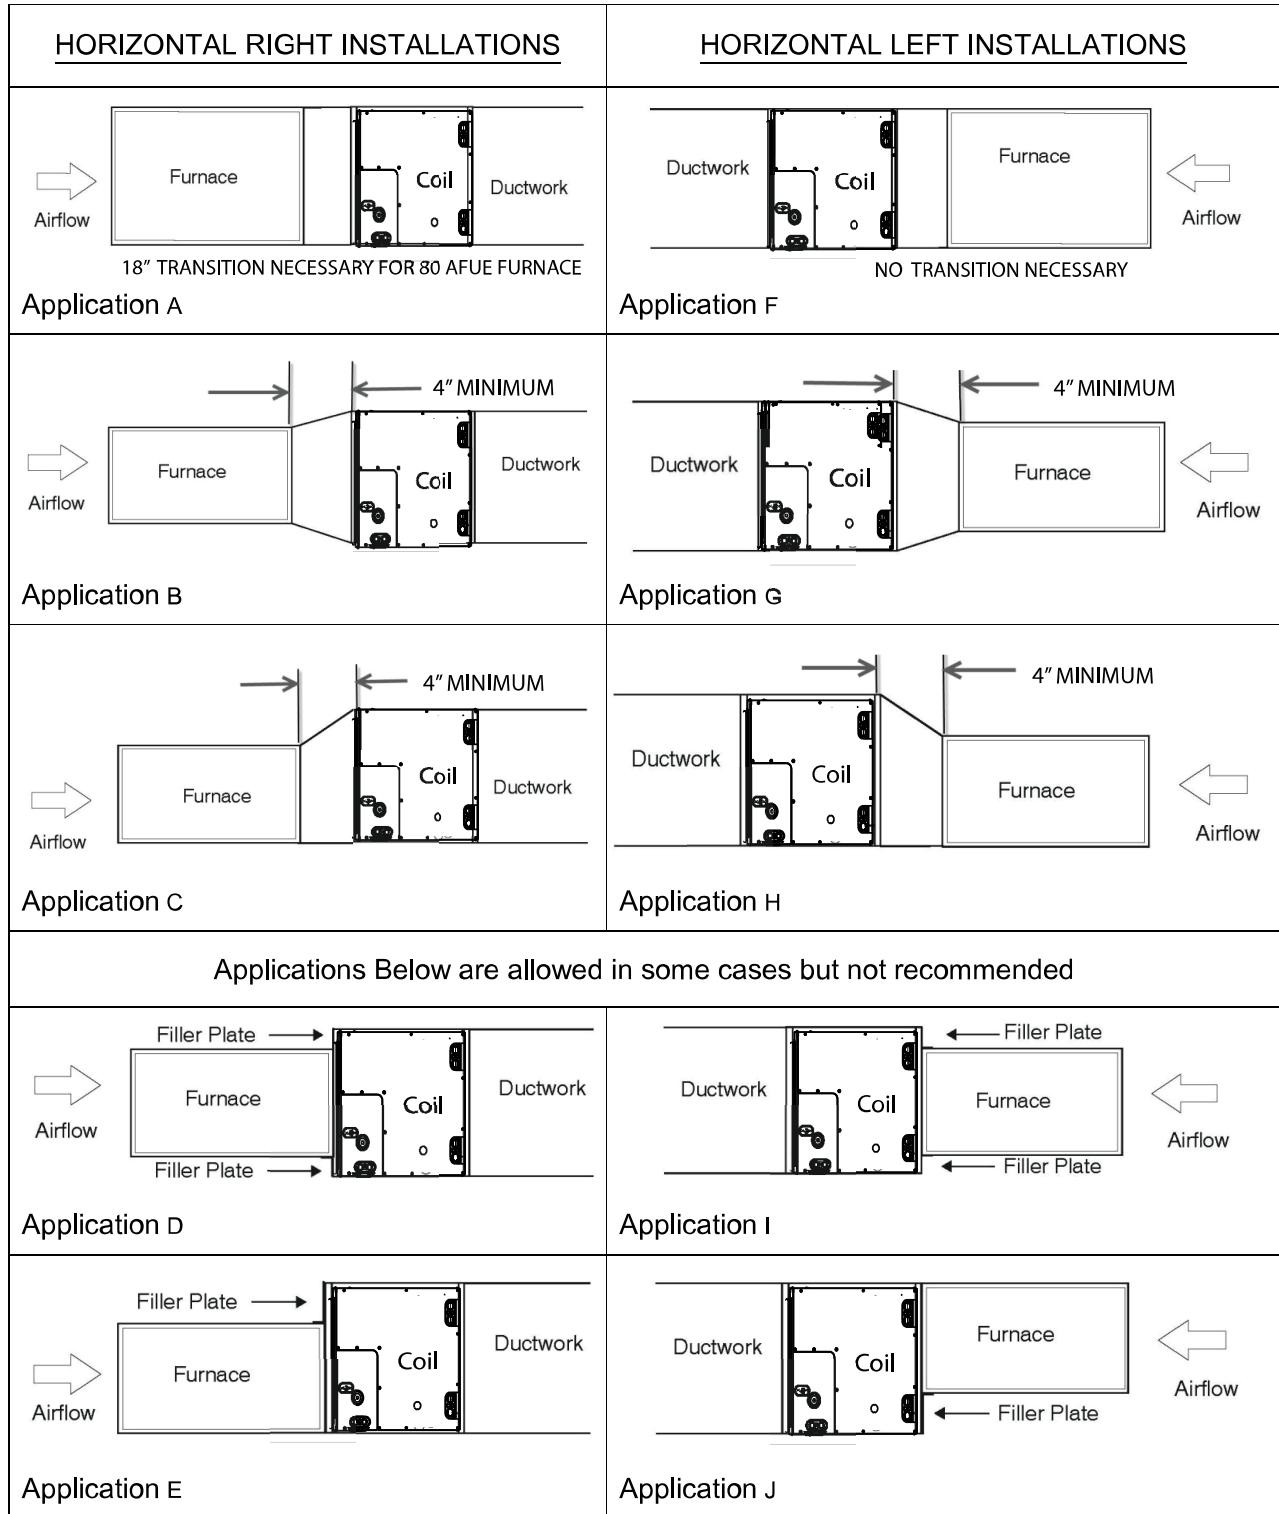

Fig. 8 – Horizontal Installation Applications
The unit can be installed on a work platform, secured to roof truss in attic, suspended from hangers on floor joists in crawl space, or installed on blocks. It is designed to allow airflow in either direction, to mate with horizontal-left or horizontal-right furnace installations. Ensure coil cabinet is level side to side and front to back. It is allowable to add up to 1/2-in. additional slope over length and depth of coil cabinet in the direction of drain pan connection (Fig. 8).
6. If coil is wider than furnace, use 18-in minimum transition and self tapping screws to attach furnace (Fig. 8).
5. If coil is wider than furnace, use 18-in. minimum transition and self tapping screws to attach furnace (Fig. 8).